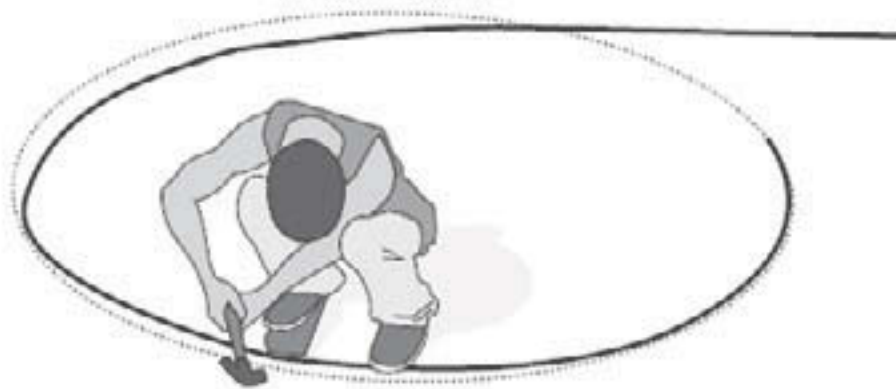

Fig. 15: Bending the horizontal hoops
2. The horizontal pieces will be ring shaped and most of them will equal the circumference (C) in length. Please note that because the form curves, the steel bar hoops at the bottom and the top will be slightly smaller than those in the middle.
3. Use a nail, string and chalk to draw circular patterns for the horizontal hoops on a flat concrete or wooden surface. Then bend pieces of steel bar into hoops of the proper size using the same method used for the vertical pieces (figure 15).